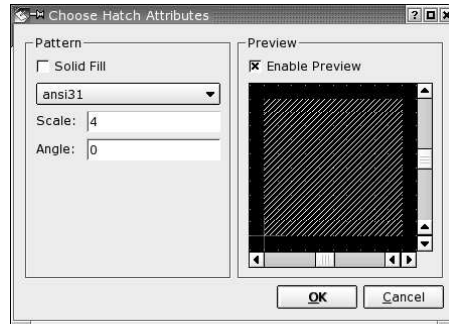

Figure 49: Hatch pattern selection.
2. A dialog for the hatch options is displayed (Figure 49). Choose a hatch pattern, scale factor and a rotation angle of the pattern. If you want to fill the object with a solid color instead of a pattern, tick the checkbox "Solid Fill".